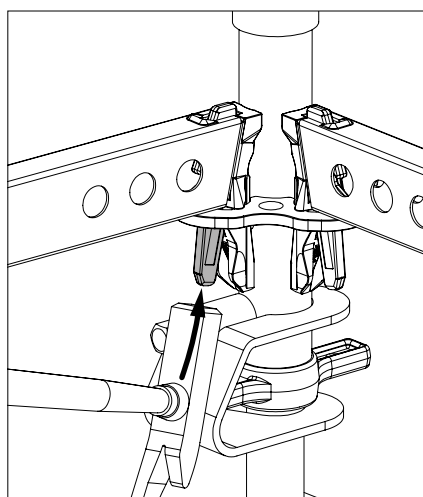

Fig. A3.05
1. Hit the wedge from below with a hammer. (Fig. A3.05)